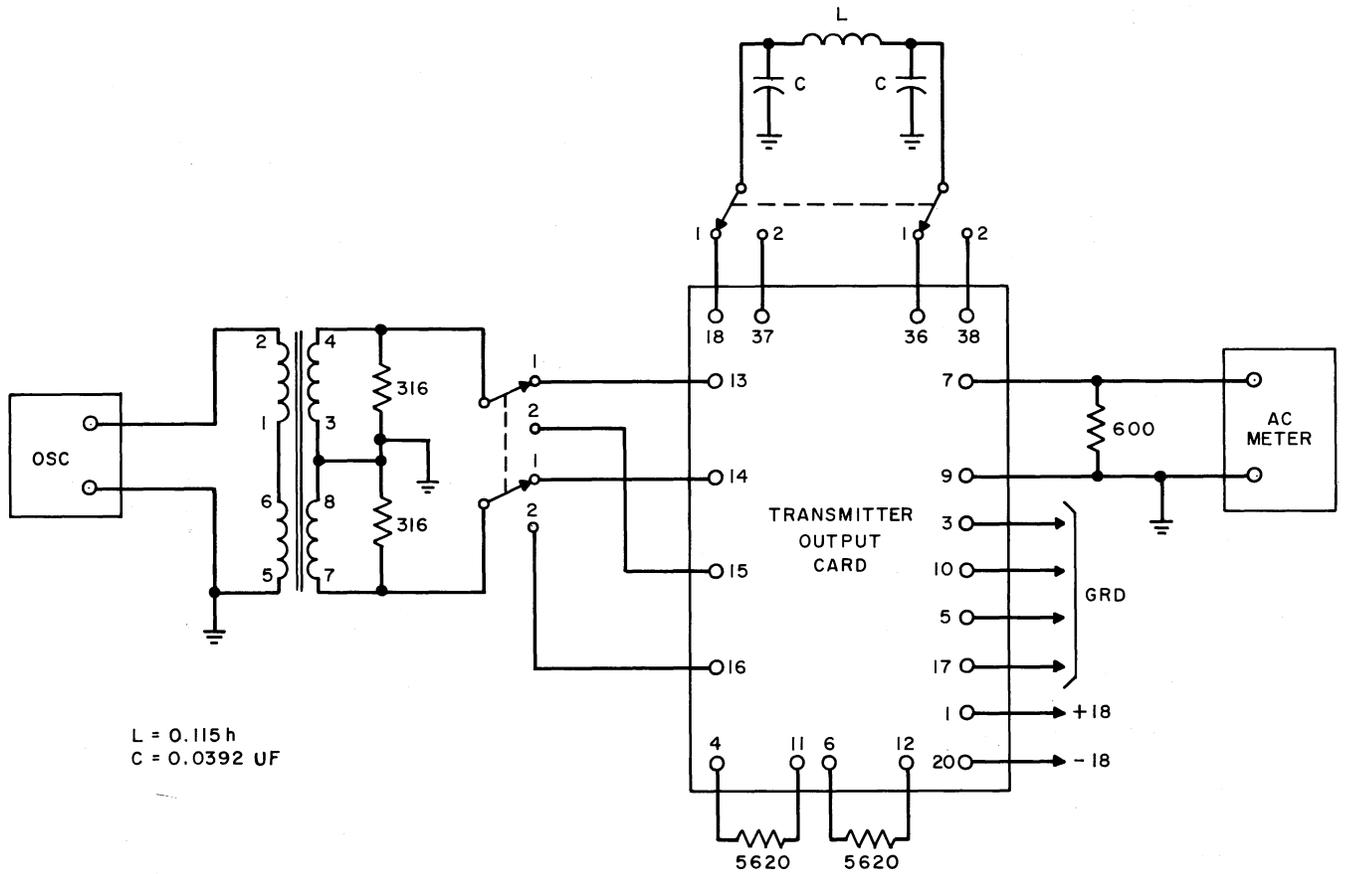

Fig. 28 - (Transmitter Output Test)
(1) Connect the card as in the suggested test circuit shown in Fig. 28. Frequency of oscillator shall be 1800 cps $\pm 5\%$.
(2) With both switches set to position 1, adjust the oscillator to produce a 1 ± 0.05 volt rms signal between input terminal 13 and ground and between input terminal 14 and ground. The output voltage between terminals 7 and 9 shall be 1.7 ± 0.25 volts rms.
(3) With both switches set to position 2, adjust the oscillator to produce a 1 ± 0.05 volt rms signal between input terminal 15 and ground and between input terminal 16 and ground. The output voltage between terminals 7 and 9 shall be 1.7 ± 0.25 volts rms.